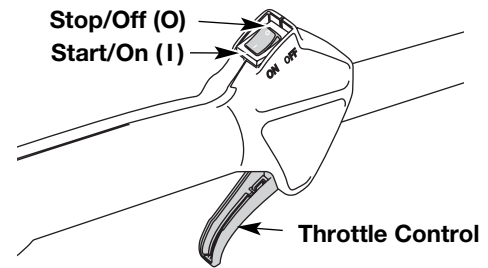

Fig. 3
- NOTE:** There is no need to turn the unit on. The On/Off Stop Control is in the ON (I) position at all times (Fig. 3).
2. Press and hold On/Off Stop Control in the OFF (O) position until engine comes to a complete stop (Fig. 3).